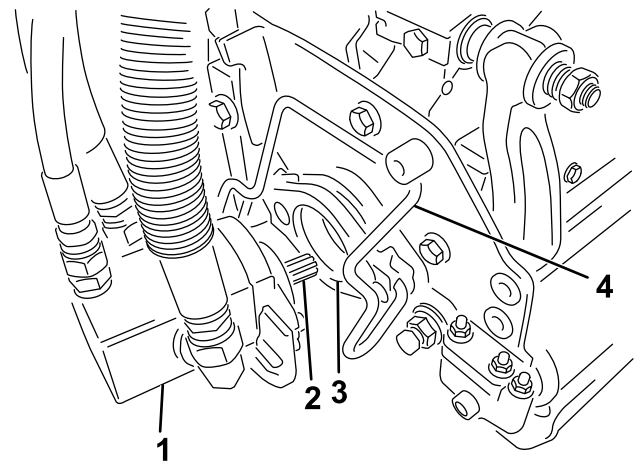

Figure 54
- 5. Coat the spline shaft of the cutting unit motor with clean grease (Figure 54).
- 6. Insert the motor into the left side of the cutting unit (as viewed from the operator's position) and pull the motor retaining bar on the cutting unit toward the motor until you hear a click from both sides of the motor (Figure 54).